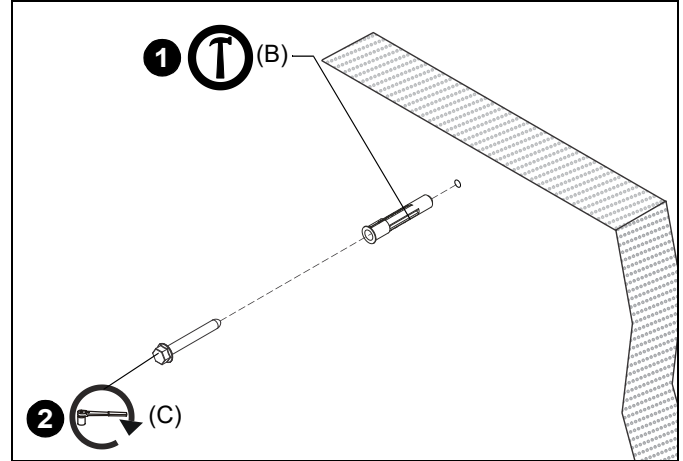

Figure 16
1. Install one UX10X60R anchor (B) into each pilot hole using a hammer, making sure that the anchor is flush with the wall. (See Figure 16)
2. Use one 5/16" x 2-1/2" hex flange head lag bolt (C) through product into each anchor in wall. (See Figure 16)